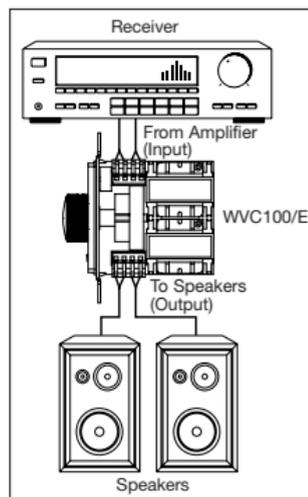

Figure 1
2. Run all necessary wiring to the volume control. Label the wires for future reference (**Figure 1**).
1. Run the necessary wiring up through the conduit and the opening at the base of the enclosure. Label the wires for future reference (**Figure 1**).